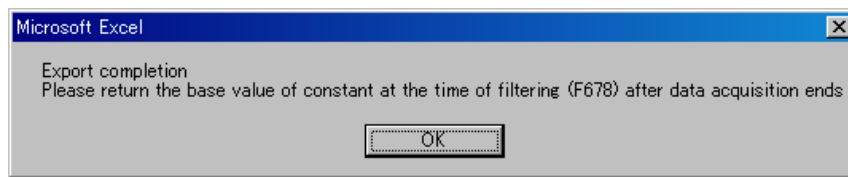

Fig. 9 Confirmation of setting
*6 If you select [Recommended value of constant at the time of filtering is set by the automatic set up.] and [The constant at the time of filtering is arbitrarily set.] to export the set values, the message “Export completion. Please return the base value of Constant at the time of filtering (F678) after data acquisition ends” (Fig. 9) will soon appear.